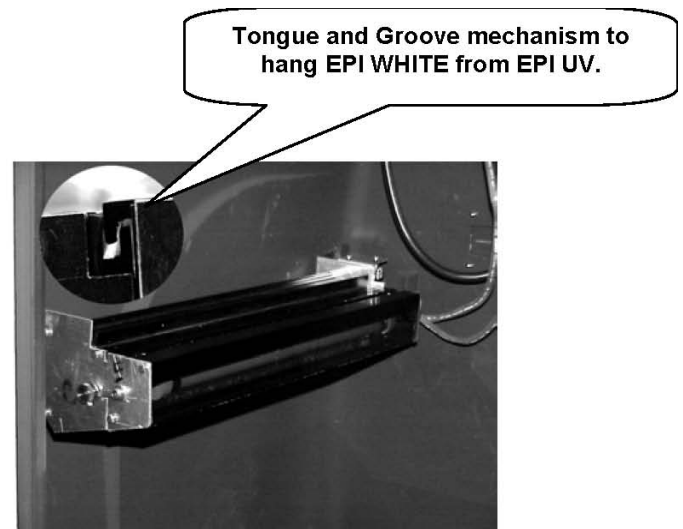

Figure 3.19B
- and groove located at the outer top edges of each module (Figure 3.19B).